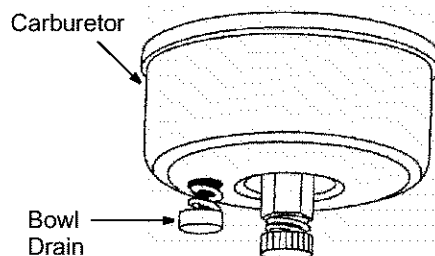

Figure 20
3. Drain carburetor by pressing upward on bowl drain, located below the carburetor cover. See Figure 20.